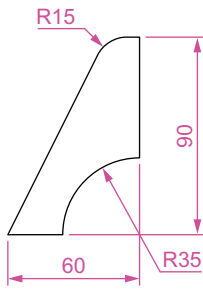

Fig. 17.12 Third example UCS – outline for 3D model
3. Construct the outline (Fig 17.12) and extrude to a height of **120**.